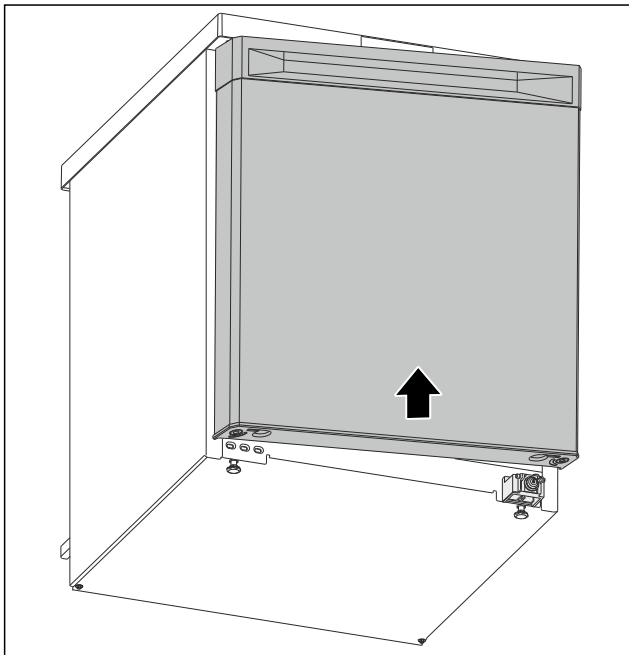

Fig. 22
- ▶ Slide the door onto the upper bolt in open status. (see Fig. 22)